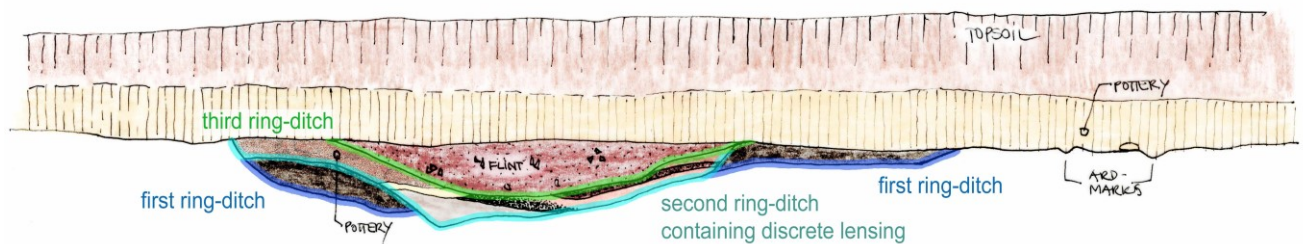

Figure 3 : Typical ring-ditch section. Drawing T Romankiewicz after Alexander 2000, Illus 9.
- **Single phase or several phases of infill?** Excavate and sample **several sections across the ring-ditch**. In open area excavation, take **sub-samples of different areas** across the ditch and **at different levels** (cf. Figure 3).
- Present **at least one section** through the **ring-ditch**, but also the adjacent areas to illustrate differences in height between ditch, interior and exterior of the house (see Figure 3).